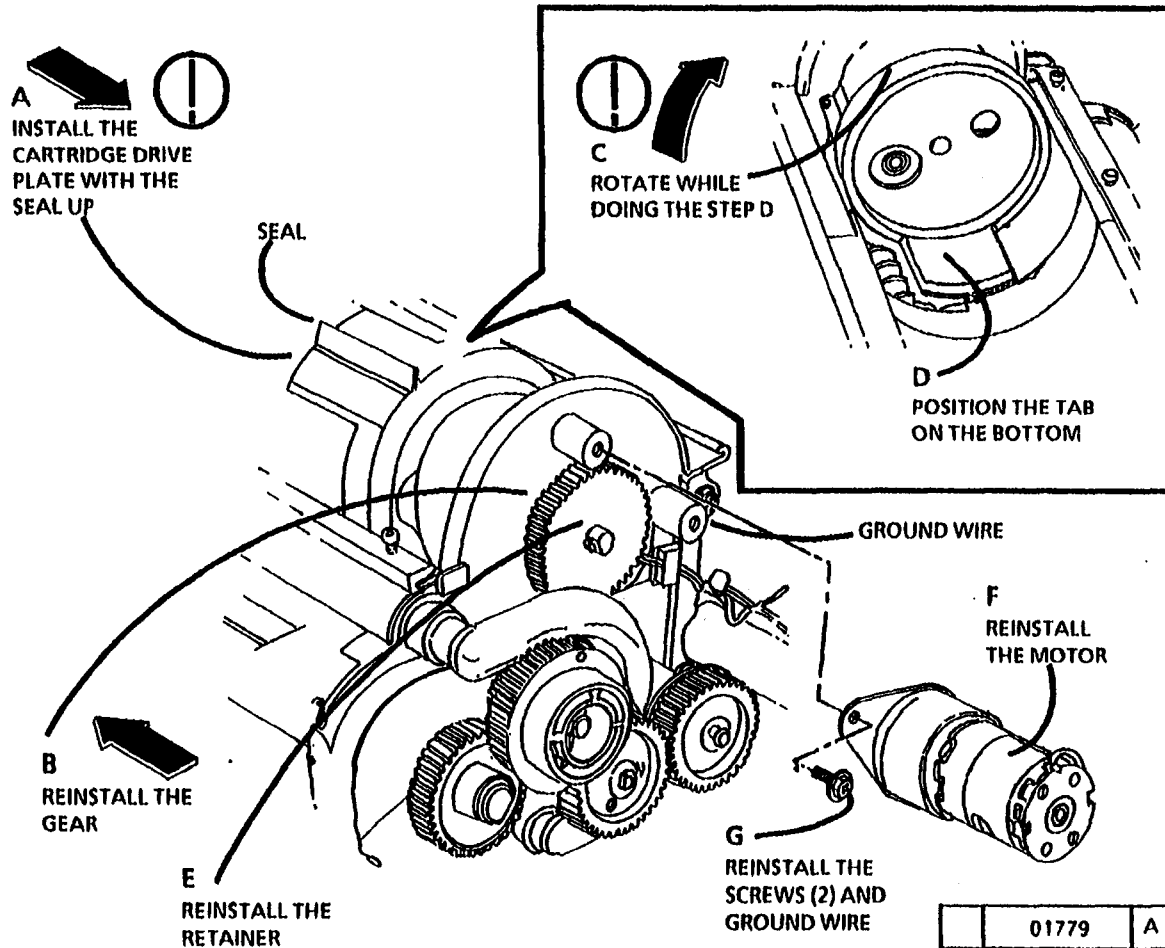

Figure 2. Install the Cartridge Drive Plate
1. (Figure 2): Reinstall the Cartridge Drive Plate.